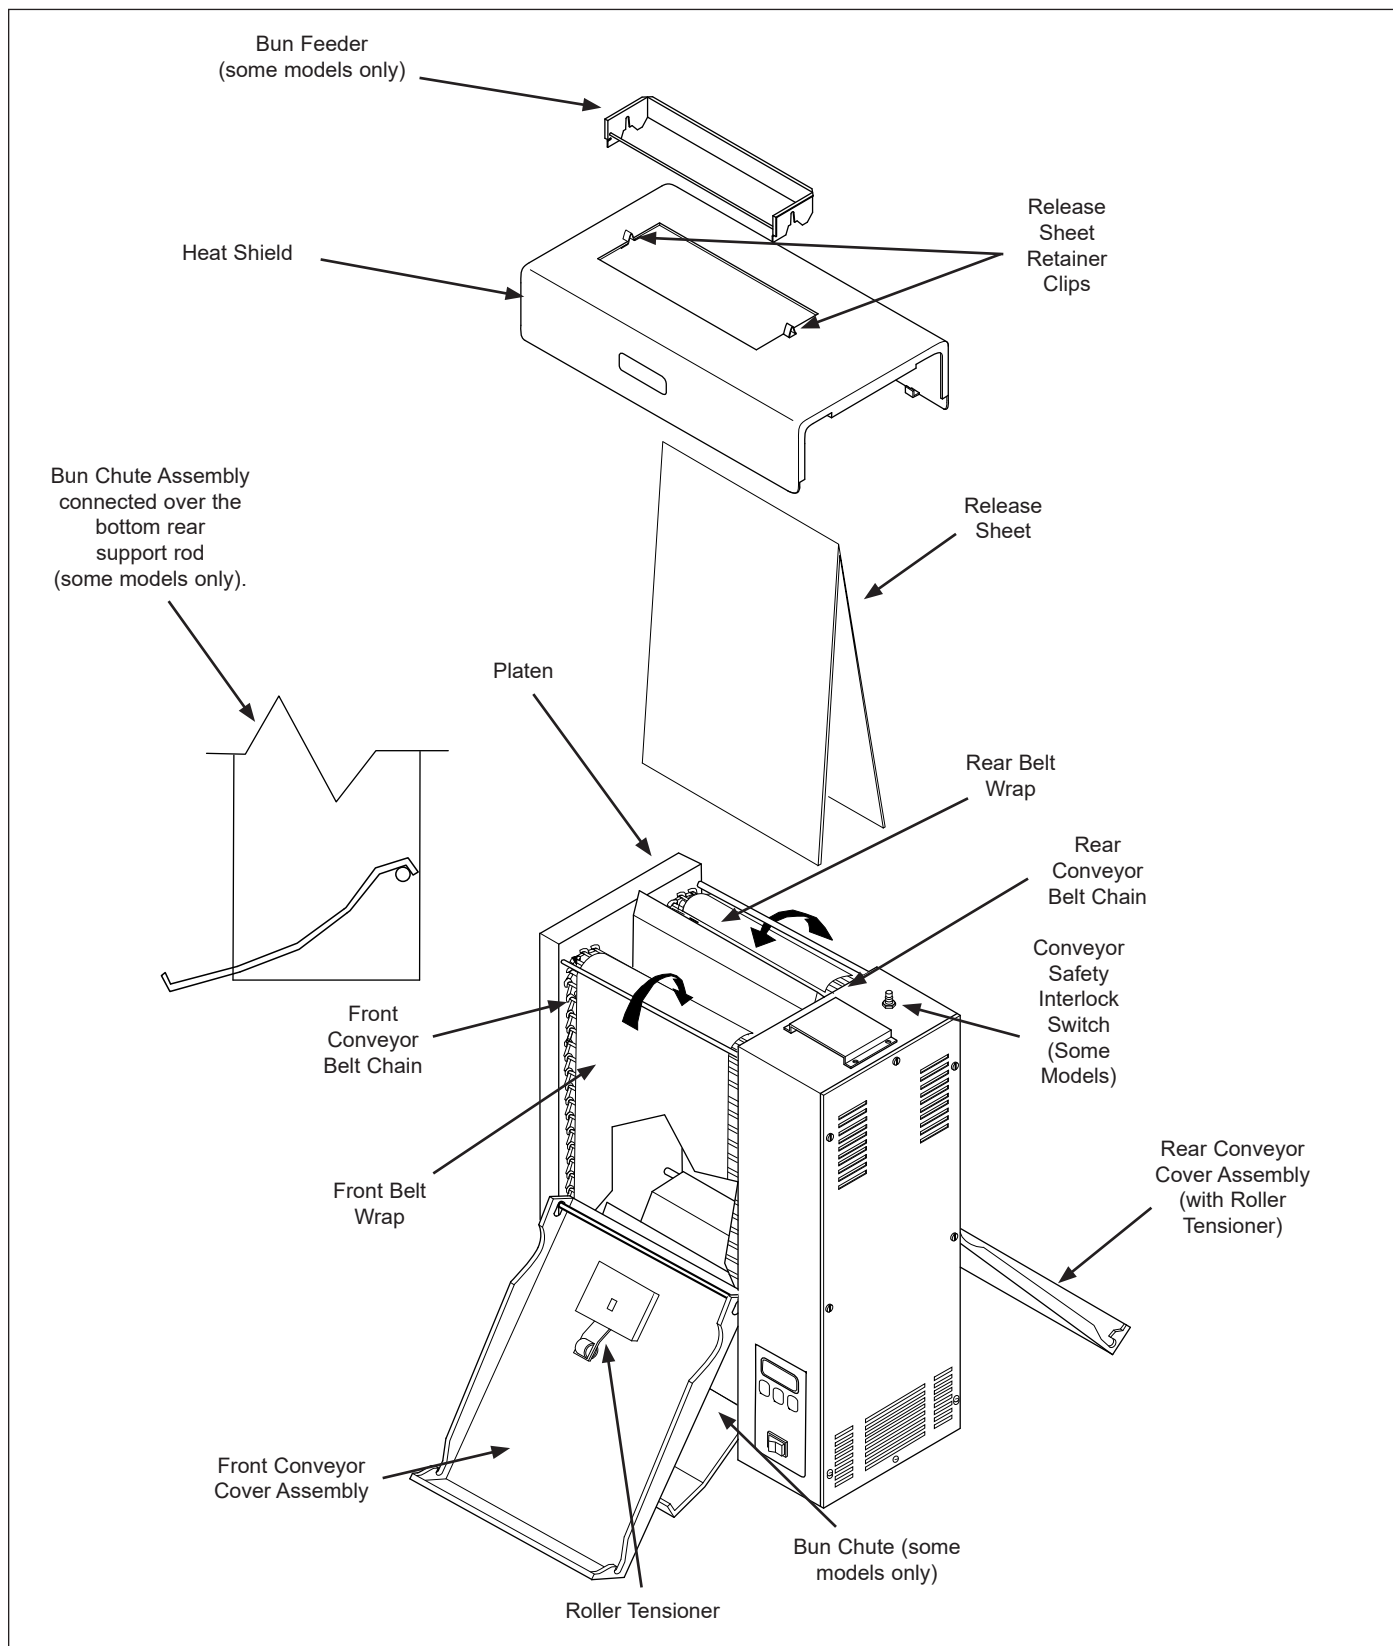

Figure 1. VCT-2000 Toaster
NOTE: The factory has pre-installed a Release Sheet over the Platen (Figure 1). Verify that it is properly in place before proceeding.
1. Remove Bun Chute and Bun Feeder from the box and install (Figure 1).